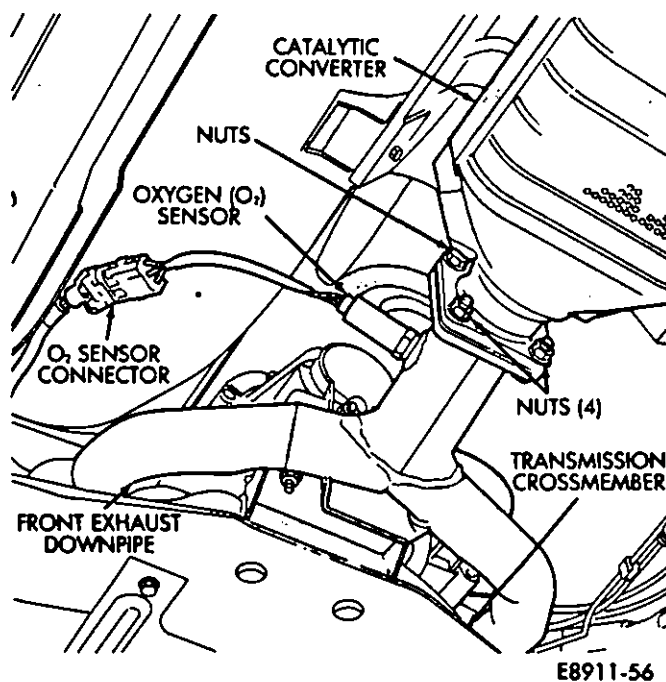

Fig. 7—O₂ Sensor/Catalytic Converter/Exhaust Downpipe
- (1) Disconnect the Oxygen (O₂) sensor connector. Remove the O₂ sensor from the front exhaust downpipe (Fig. 7).
- (2) Remove the nuts holding the catalytic converter to the front exhaust downpipe (Fig. 7). Pull the converter back and discard the gasket.
- (5) Remove the transmission jack.
- (6) Replace the front exhaust downpipe to catalytic converter gasket.
- (7) Connect the catalytic converter to the front exhaust pipe (Fig. 7). Tighten the nuts to 34 N·m (25 ft-lbs) torque.
- (8) Install O₂ sensor (Fig. 7). Tighten the O₂ sensor to 30 N·m (22 ft-lbs) torque.
- (9) Connect the O₂ sensor connector.
- (2) Remove the intermediate pipe from the converter.
- (3) Disconnect the converter from the front exhaust downpipe (Fig. 7).
- (1) Replace the front exhaust downpipe to converter gasket.
- (2) Connect the converter to the front exhaust downpipe (Fig. 7). Tighten the nuts to 34 N·m (25 ft-lbs) torque.